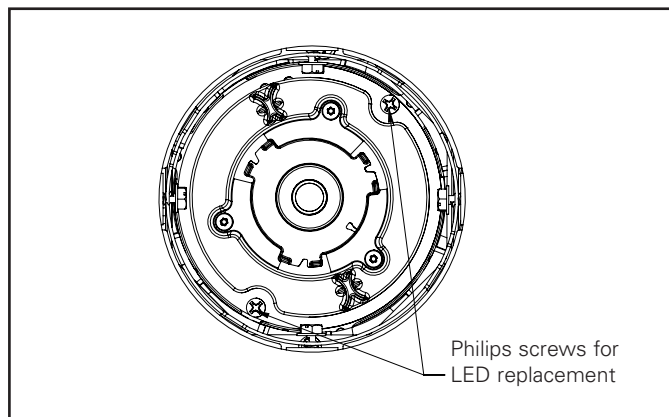

Figure 17.
5. Locate the two Phillips head screws on heat sink (Figure 17)